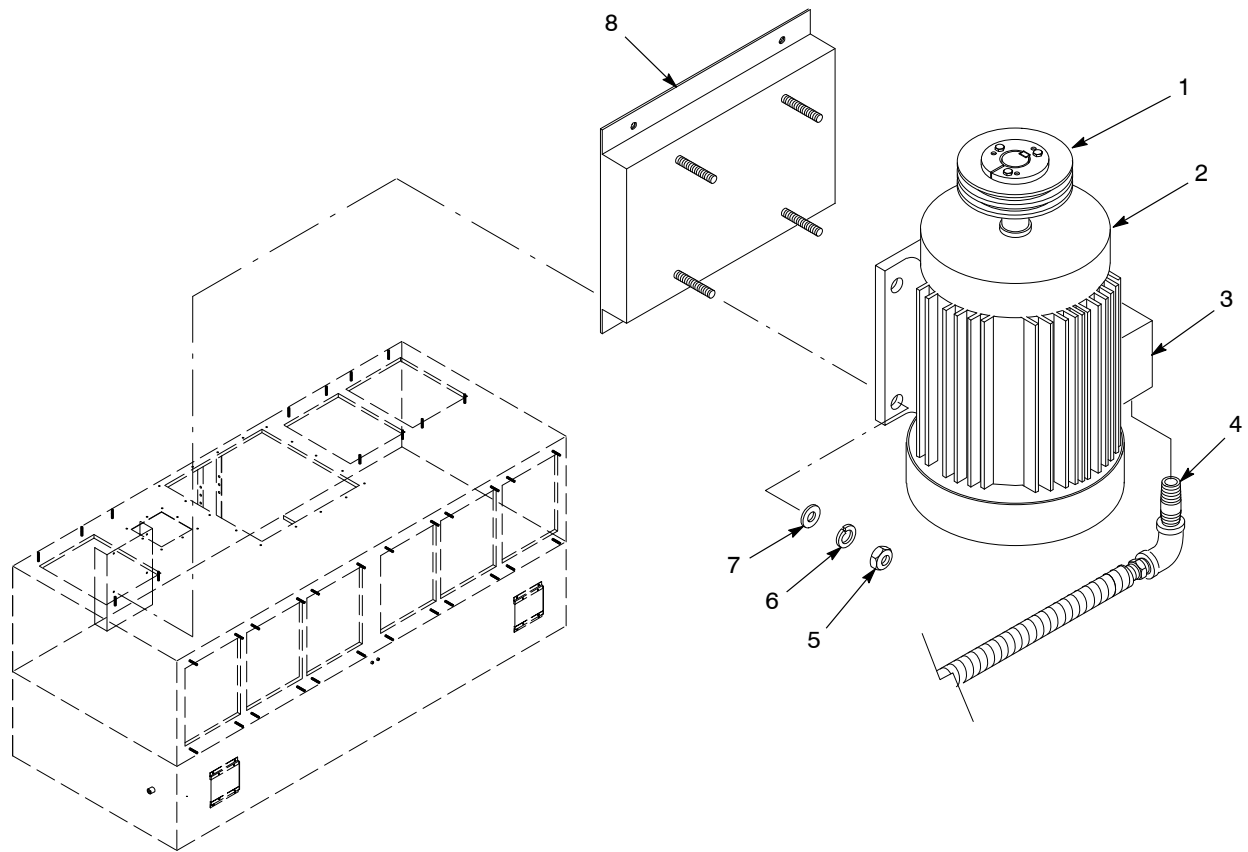

Figure 6-10 Motor Replacement
2. See Figure 6-10. Remove the cover from the motor junction box (3). Tag and disconnect the wiring from the motor leads. Disconnect the conduit (4) from the junction box.
3. Remove the V-belts, as described in the *V-Belt Replacement* procedure, from the motor sheave (1).
4. Secure a heavy-duty sling or chains around the motor (2). Attach the sling or chains to a chain hoist or to the forks of a lift truck. Take up the slack in the sling or chains.
5. Remove the nuts (5), lock washers (6), and flat washers (7) securing the motor to the motor mount (8).